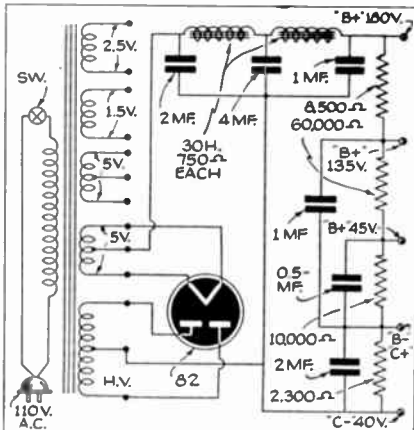

Fig. 24
(A) You do not state the age or type of your set, so it is hard to answer you. If it is old, by all means buy or build a completely new set. It will be well worth the little more it will cost you. If it is a modern battery-operated set, it will probably be best for you to retain the present "A" battery and powerise for the "B" and "C". Should you be determined to put power into an old battery-operated set, we suggest that you replace the tubes with more modern A.C. tubes, and use a power pack similar to that shown in Fig. 24.